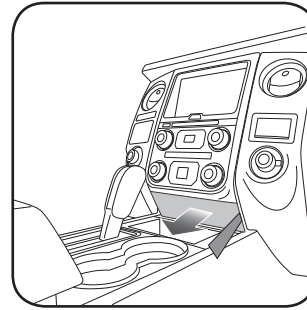
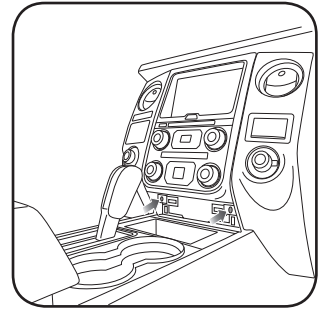

Fig. 1.1
Fig. 1.2
1. Unclip and remove the trim panel at the bottom of the climate control panel. (Fig. 1.1) Remove two (2) 7mm screws behind it. (Fig. 1.2)